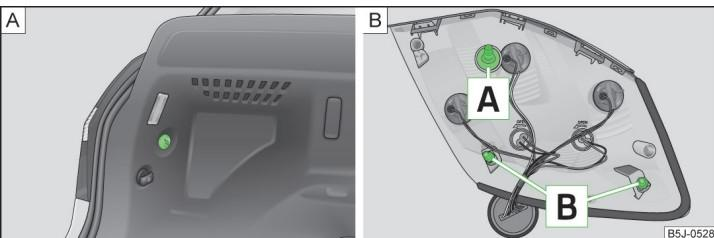

Fig. 162 Plastic nut/rear lamp
- Hold the rear light assembly still with one hand and unscrew the plastic nut » Fig. 162 - **A** with the other.
- To refit the rear light assembly, first insert screw **A** into the opening in the bodywork » Fig. 162.
- Hold the rear light assembly still with one hand and attach and tighten the nuts » Fig. 162 - **A** with the other hand.